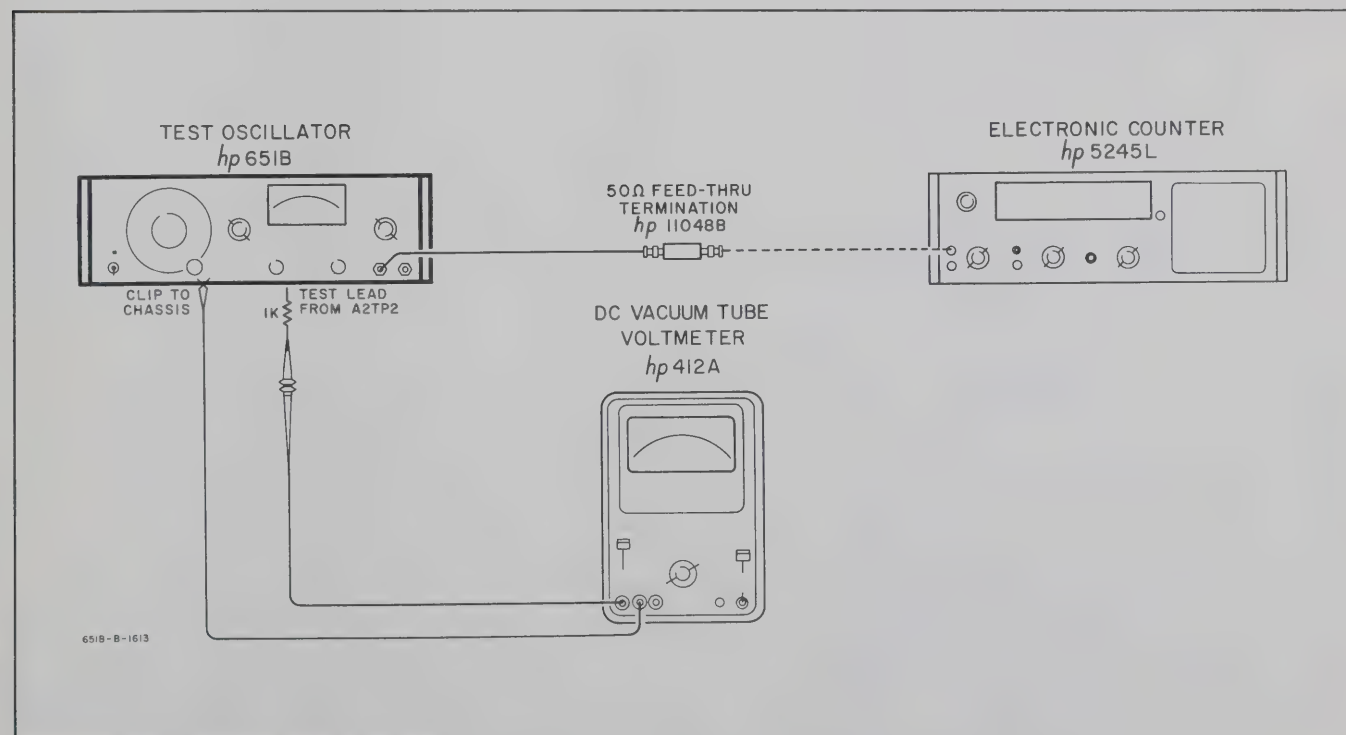

Figure 5-8. Frequency Calibration
- The frequency calibration setup is shown in Figure 5-8. Output frequency should be continuously monitored at the 50Ω output with a counter. Dc voltage at A2TP2 should also be monitored continuously, after Paragraph 5-27 has been performed.
- b. Connect equipment as shown in Figure 5-8 and set 651B controls same as Paragraph 5-27b.
- a. Connect equipment as shown in Figure 5-8.
- Connect the equipment as shown in Figure 5-8.
- Connect equipment as shown in Figure 5-8.